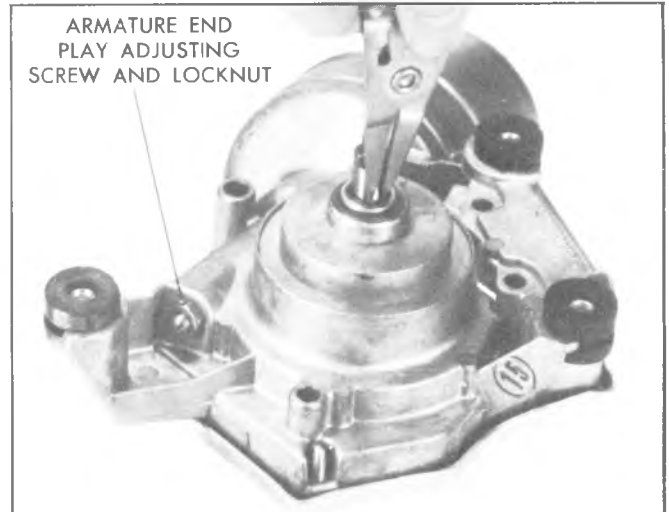
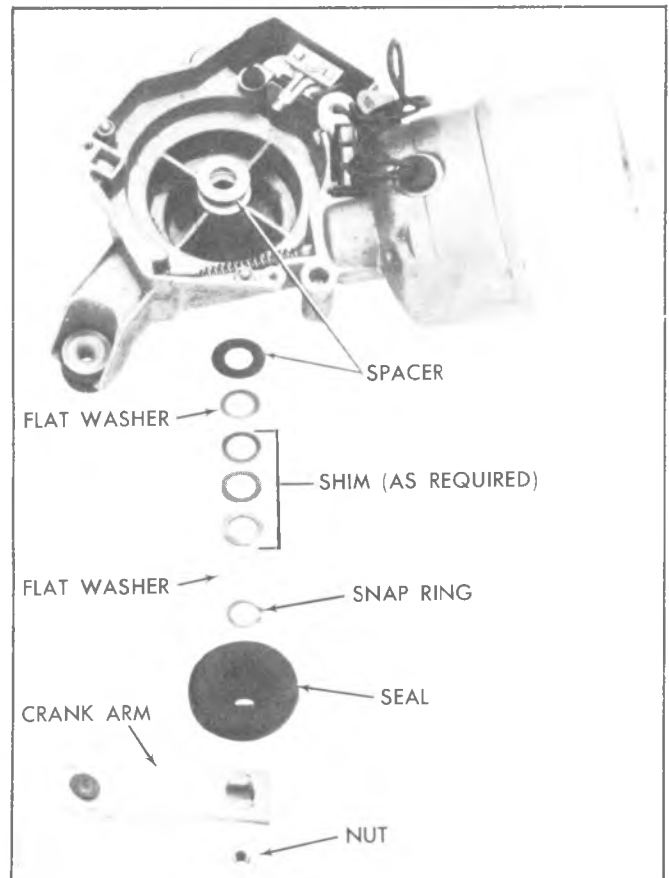

Fig. 8-27--"C" Ring Removal
Fig. 8-28--Assembly Above Drive Gear
4. Remove seal cap and using No. 22 External Snap Ring Pliers, remove the "C" retaining ring (fig. 8-27). Next, remove washer, end play washers, and outer spacer (fig. 8-28).
Loosen adjusting screw locknut (Figure 8-27) and tighten the adjusting screw until finger tight, tighten locknut.
Add end-play washers as required to obtain .005" minimum end-play (Figure 8-27).